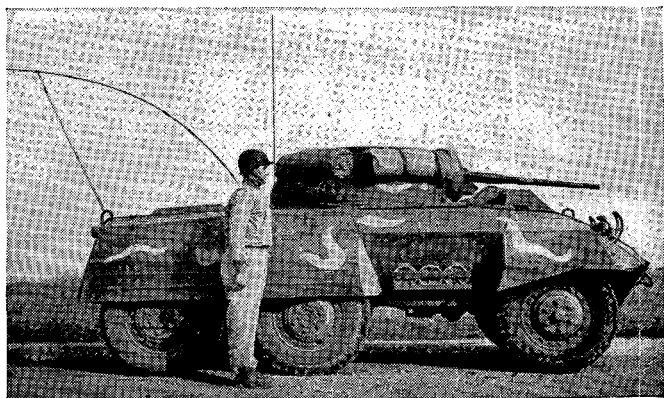

FIGURE 1.—Light armored car M8.
■ 1. **PURPOSE AND SCOPE.**—*a.* This manual is designed for the use of the platoon leader and car commander in training members of the crew of the light armored car M8. (See fig. 1.) It is to be used as a guide to achieve orderly, disciplined, and efficient execution of mounted and dismounted action, and precision, accuracy, and speed in the service of the vehicular weapons.